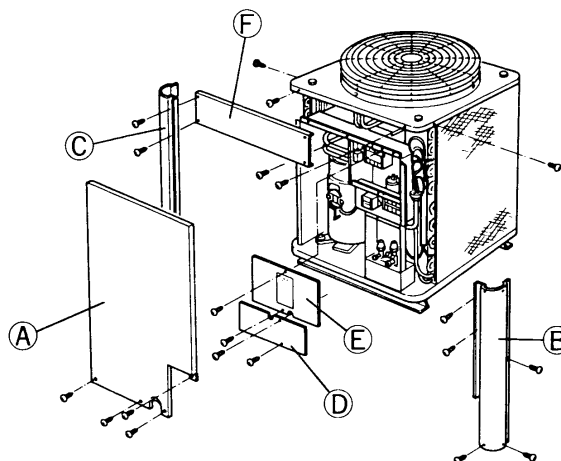

Fig. 17
- 1) Remove the exterior panels in the order of the front panel (A), side panel (B) and side panel (C).
- 2) Remove the cover plates (D) and (E).
- 3) Remove the mounting plate (F). Fig. 17
- 1) Many wires have to be removed. When removing wires, carefully check the electric diagram on the rear side of the cover plate (D). Fig. 17